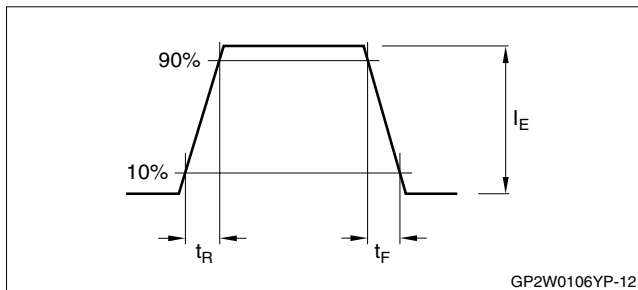

Figure 12. Output Waveform Specification (Emitter Side)
7. BR = 115.2 kbps, $\phi \leq 15^{\circ}$, $T_{OPR} = 25^{\circ}\text{C}$. $V_{DD} = V_{LEDA} = 3.3\text{ V}$. $V_{IHTXD} = 2.8\text{ V}$. See Figures 12, 13, and 14.
8. BR = 115.2 kbps. See Figures 12, 13, and 14.